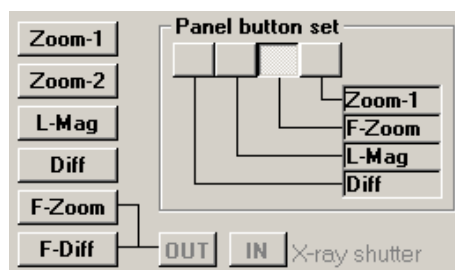

Fig. 2-67 Lens mode set Window
- (d) When the analysis kit (option) is mounted, F-Zoom and F-Diff buttons on the Lens mode set window are validated as shown in Fig. 2-67. "X-ray shutter" denotes the shutter for the detector of X-ray spectrometer. It is validated when F-Zoom is selected. OUT opens the shutter and IN closes it. For X-ray analysis, the shutter should be used in the OUT status.